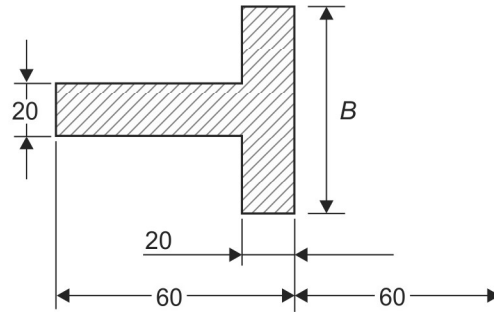

Fig. 1.38: Problem 33
33. Determine the width of larger side of a T-section shown in Fig. 1.38 for extreme fiber stresses in bending to be numerically equal.
- From **Fig. 1.38**, we have